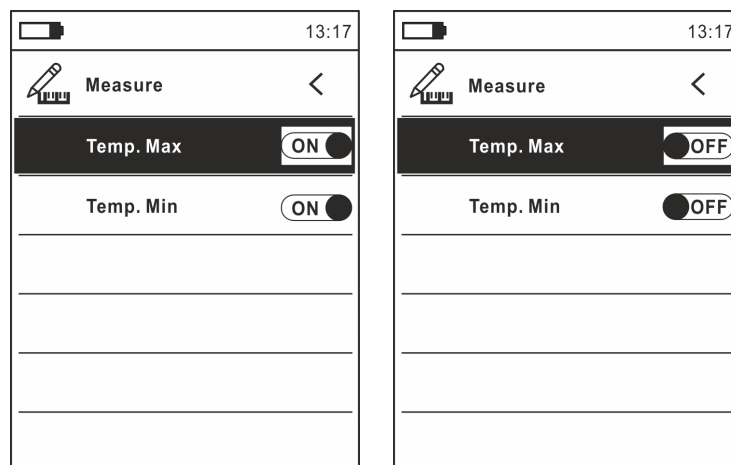

Fig. 5: Measurement Menu
8. Select item "Measurement" and press key **OK** to enable the activation/deactivation of the cursors associated with the "hottest" or "coldest" spots in the thermographic image (see Fig. 5).